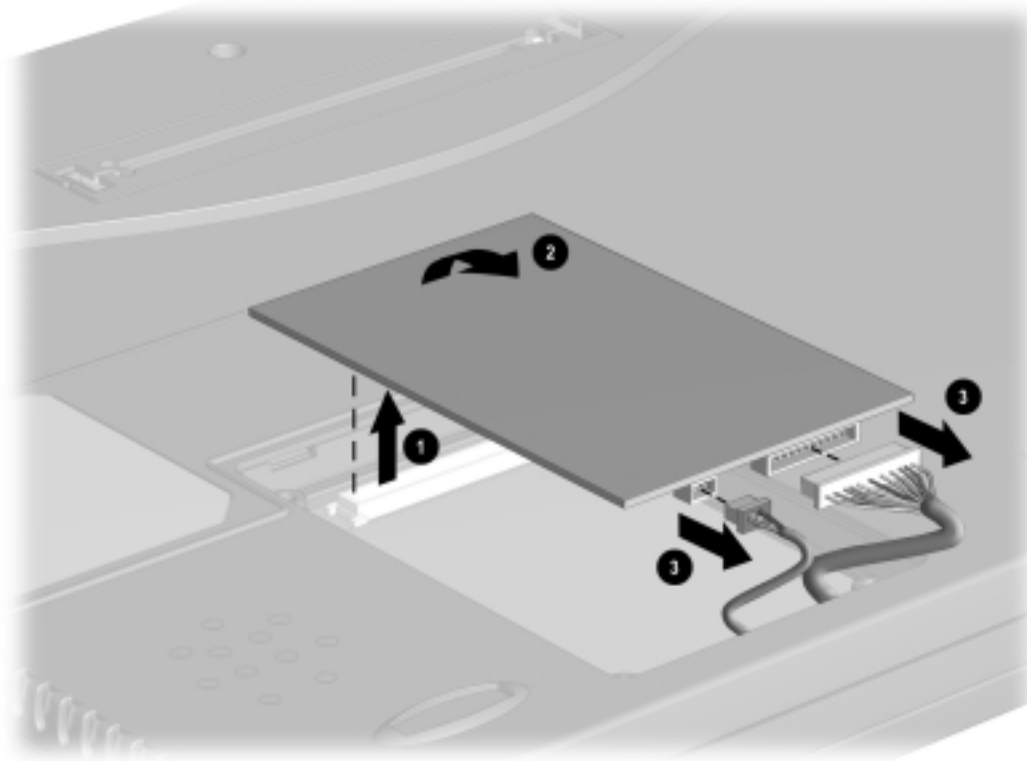

Figure 5-12. *Removing the Modem or Modem/NIC Card*
7. Lift up on the back of the modem or modem/NIC card ❶, and swing it forward to disconnect it from the system board ❷ (Figure 5-12).
8. Use the connector removal tool to disconnect all cables connected to the card ❸.